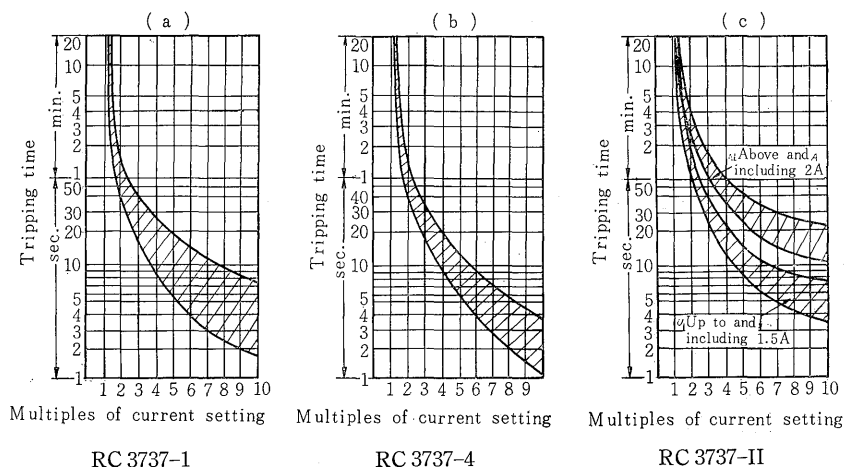
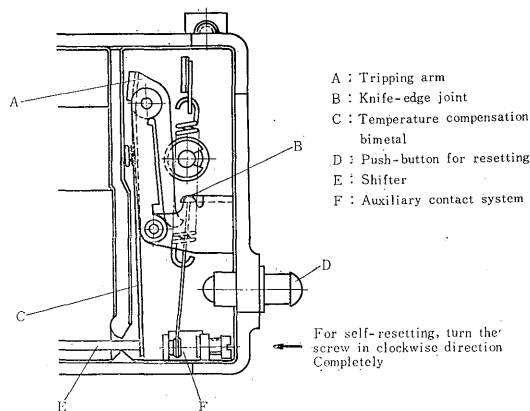

Fig. 8. Tripping characteristics of Fuji thermal relays
Fig. 10. View of tripping system of thermal relay type RC 3737-4 (as seen from rear)
Every relay is accompanied with a perfect temperature compensation and is strictly adjusted. RC 3737-1 type can be used up to and including a maximum current of 16 amperes and though the manual reset type is our standard the automatic reset type is also offered by request. RC 3737-4 type may be used up to and including a maximum current of 50 amperes and has a contact system which can be easily changed into either automatic or manual reset type by turning a screw, (see Fig. 10.) RC 3737-II type as shown in Fig. 8 (C) has a time lagging characteristics and is suitable for a heavy starting motor. Because this relay is of the manual reset type, it can be of anti-vibration type and displays its ability for marine use.